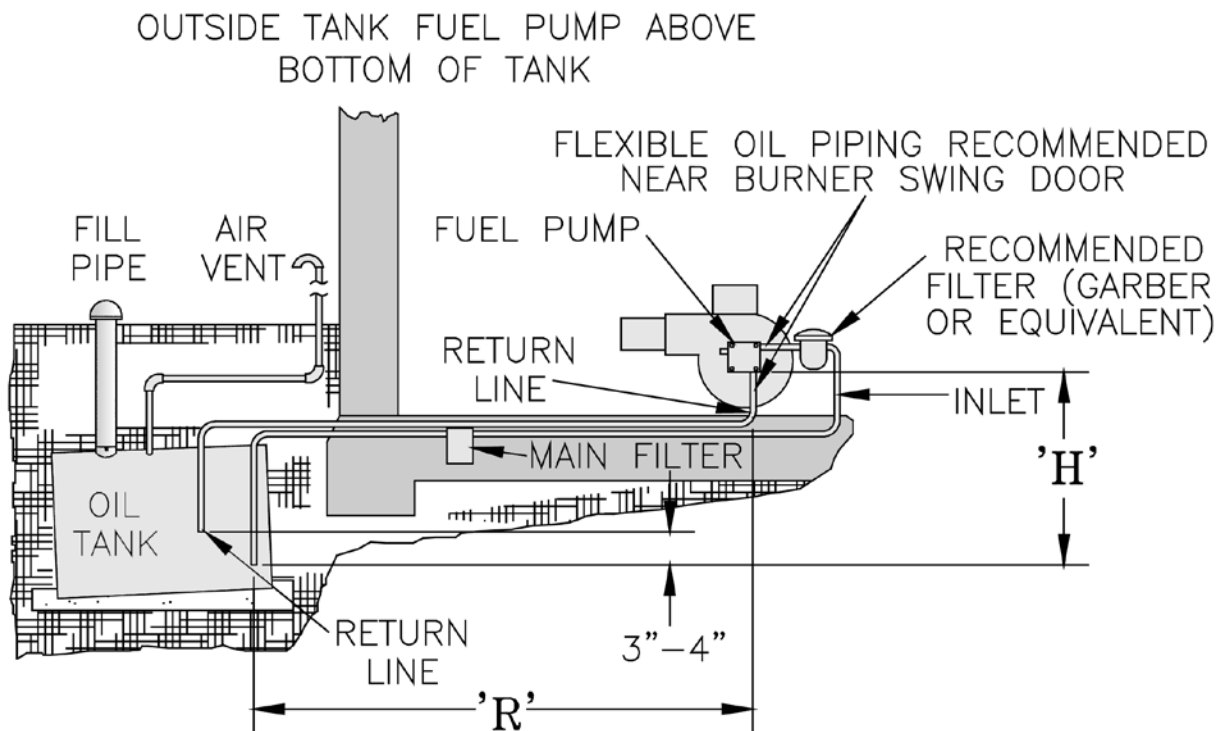

Figure 21: Two-Pipe Installation
Lift "H" (See Figure 21)	Maximum Length of Tubing "H" + "R" (See Figure 21)
1. For two-piped systems, where more lift is required, the two-stage fuel unit is recommended. Table 2 (single-stage) and Table 3 (two-stage) show allowable lift and lengths of 3/8 inch and 1/2 inch OD tubing for both suction and return lines. Refer to Figure 21.